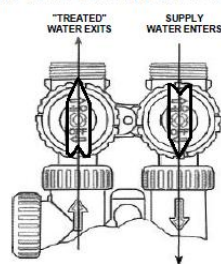

Figure 2 - Service
1. **Normal Operation Position:** The inlet and outlet handles point in the direction of flow indicated by the engraved arrows on the control valve. Water flows through the control valve for normal operation of a water softener or filter. During the regeneration cycle this position provides regeneration water to the unit, while also providing untreated water to the distribution system (**Fig. 2**).
- STEP 15: Backwash Cycle:** “BACKWASH” will be shown in the lower middle of the display and “REGEN” appears in the middle left of the display. Another count-down timer will appear in the time-of-day position. Unplug the transformer from the electrical outlet to keep the softener from advancing to the next cycle. Slowly turn the INLET knob of the bypass, counter-clockwise, to a point approximately half way between “Bypass” and “Service” positions (Figure 2, Page 4). Water will begin to fill the mineral tank from the bottom up, gently purging the air from the tank. When air stops escaping and only water flows to the drain; gradually turn the INLET knob of the bypass valve counter-clockwise until it is fully in “Service” position (Figure 2, Page 4). Then turn the OUTLET knob of the bypass valve counter-clockwise until it is fully in the “Service” position (Figure 2, Page 4). When the water flowing to drain runs clear, plug the transformer back into the electrical outlet. Press the “REGEN” button to advance to the “Brine Draw” cycle.